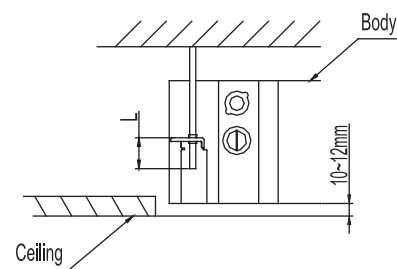

Fig. 1-4
- Adjust the position to ensure the gaps between the body and the four sides of ceiling are even. The body's lower part should sink into the ceiling for 10~12 mm (Refer to Fig.1-4).
- In general, L is half of the screw length of the installation hook. (Refer to Fig.1-4)